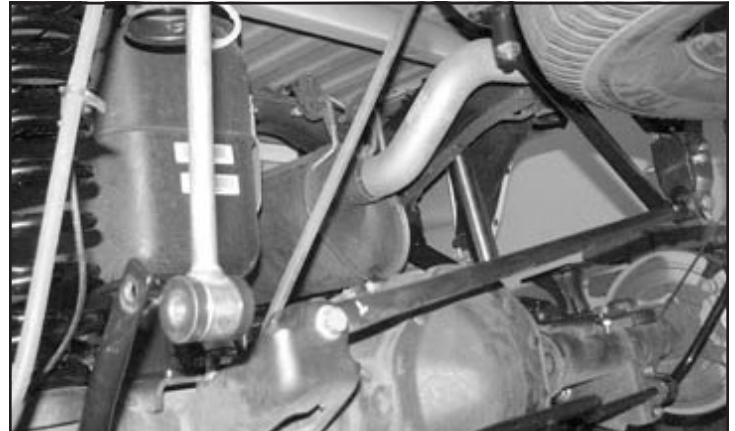

FIGURE 51 - STEP 69
69. Locate the new sway bar links FT1599-2-4 and insert 2 bushing halves and a sleeve into each end (use the supplied lube). Install one end of the link into the frame mount and insert the M12 x 70mm bolt through the sleeve. Attach the sway bar to other end of the link with M12 x 70mm bolt, nut and washer. Torque to 65 ft-lbs. **SEE FIGURE 51**